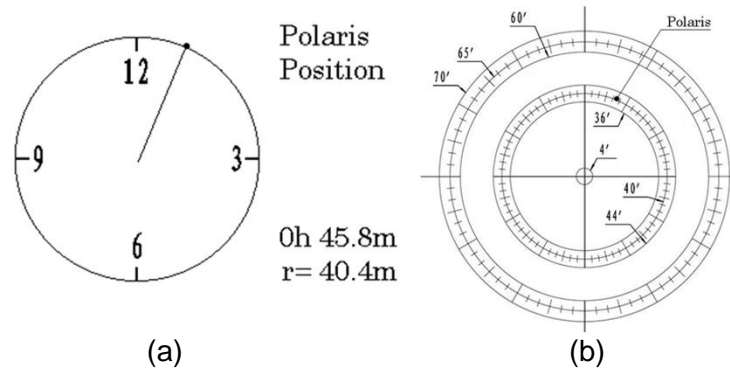

Figure 23. Polaris position shown on HC (a) and where to put on polar scope reticle (b)
- (6) Look through the polar scope to find the Polaris. Use the Azimuth and Latitude Adj. Knobs to adjust the mount in both directions and put the Polaris in the location on the Polar Scope Dial (same as indicated on the HC LCD), as shown in Figure 23 (b).